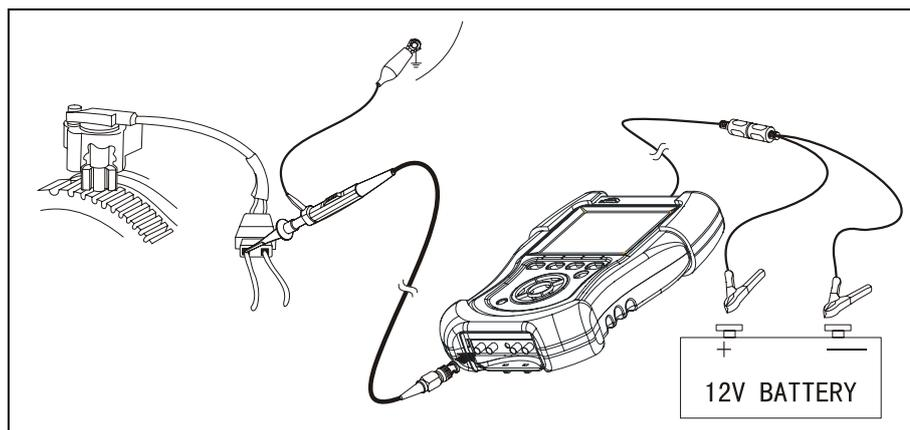

Fig. 3-11
When connecting KT600 to extension line for power supply, choose battery or cigar igniter as power supply according to the battery position of vehicle mode tested. All connecting diagrams in this users manual take power supply by battery as example. If choosing cigar igniter connector, confirm that cigar igniter has 12V battery voltage first. Connect test probe to Channel 1 (CH1 port), and then connect the small alligator clip on test probe to the negative of battery or grounding, pierce test probe into the CPS signal line. Connecting diagram is shown as Fig.3-11.
1. Connect equipment according to Fig.3-11, switch on power supply switch of KT600;